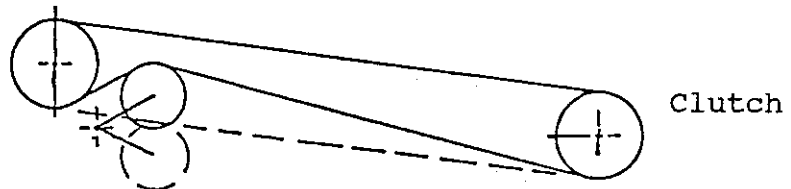

Fig. 7 Cutter Deck Drive Belt
- 3.3.7 Install cutter deck drive belt. First be sure belt is in the clutch drive sheave groove. Place the other end of the belt over the cutter deck drive sheave and rotate this sheave for belt to slip into sheave groove. Next, pull idler assembly back to allow belt to engage idler sheave. Replace the center cutter deck belt shield. See Figure 7. Connect clutch wiring connector.